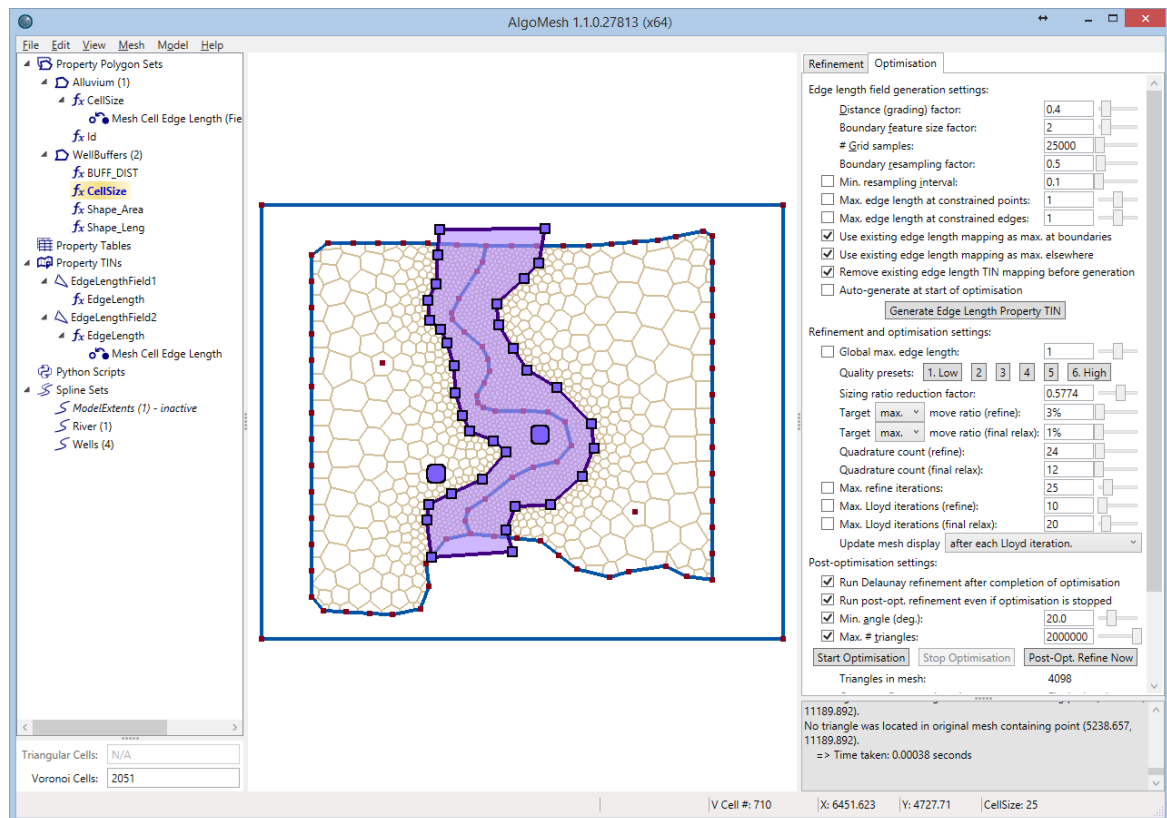

Figure 56: The river mesh with the newly added well buffer polygons overlying it.
- Select **WellBuffers.shp** and click **Open**. The WellBuffers layer is added as another property polygon set, beneath the Alluvium set, and two rounded buffer polygons can be seen around the two pumping wells in the main view, as in Figure 56.